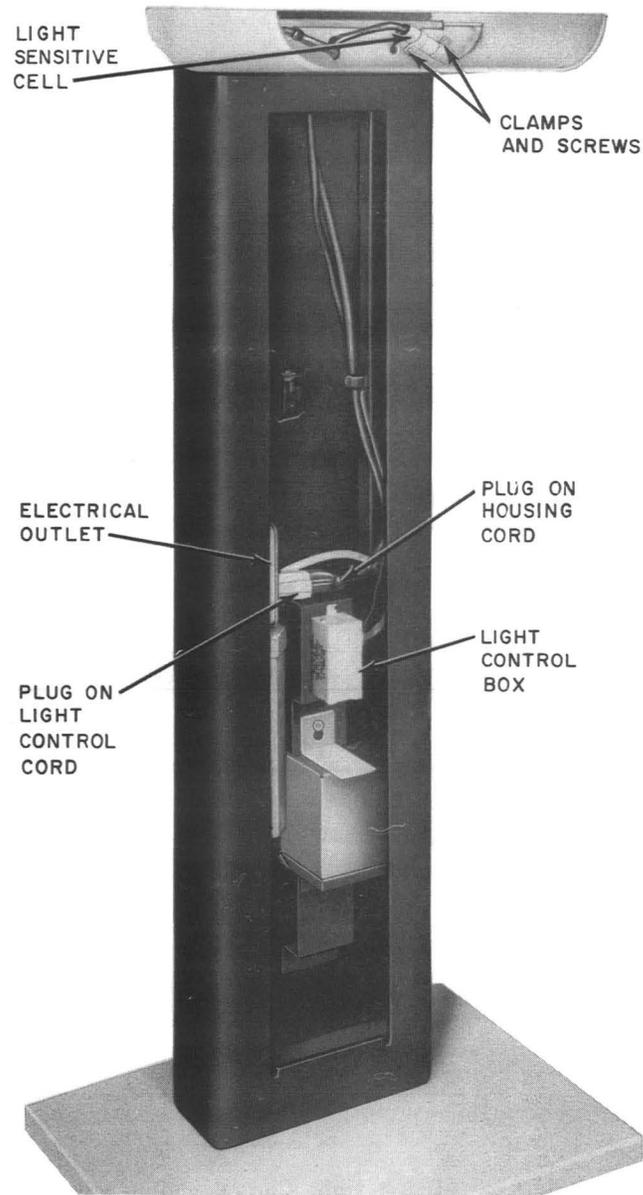

Fig. 23—KS-19261, List 4 Light Control Unit (Early Model) Installed with Single List 31 Housing
**5.02 Post Mounted List 31 Housing (Fig. 23).**
- (h) Secure light sensitive cell to housing using two cable clamps provided (Fig. 23).